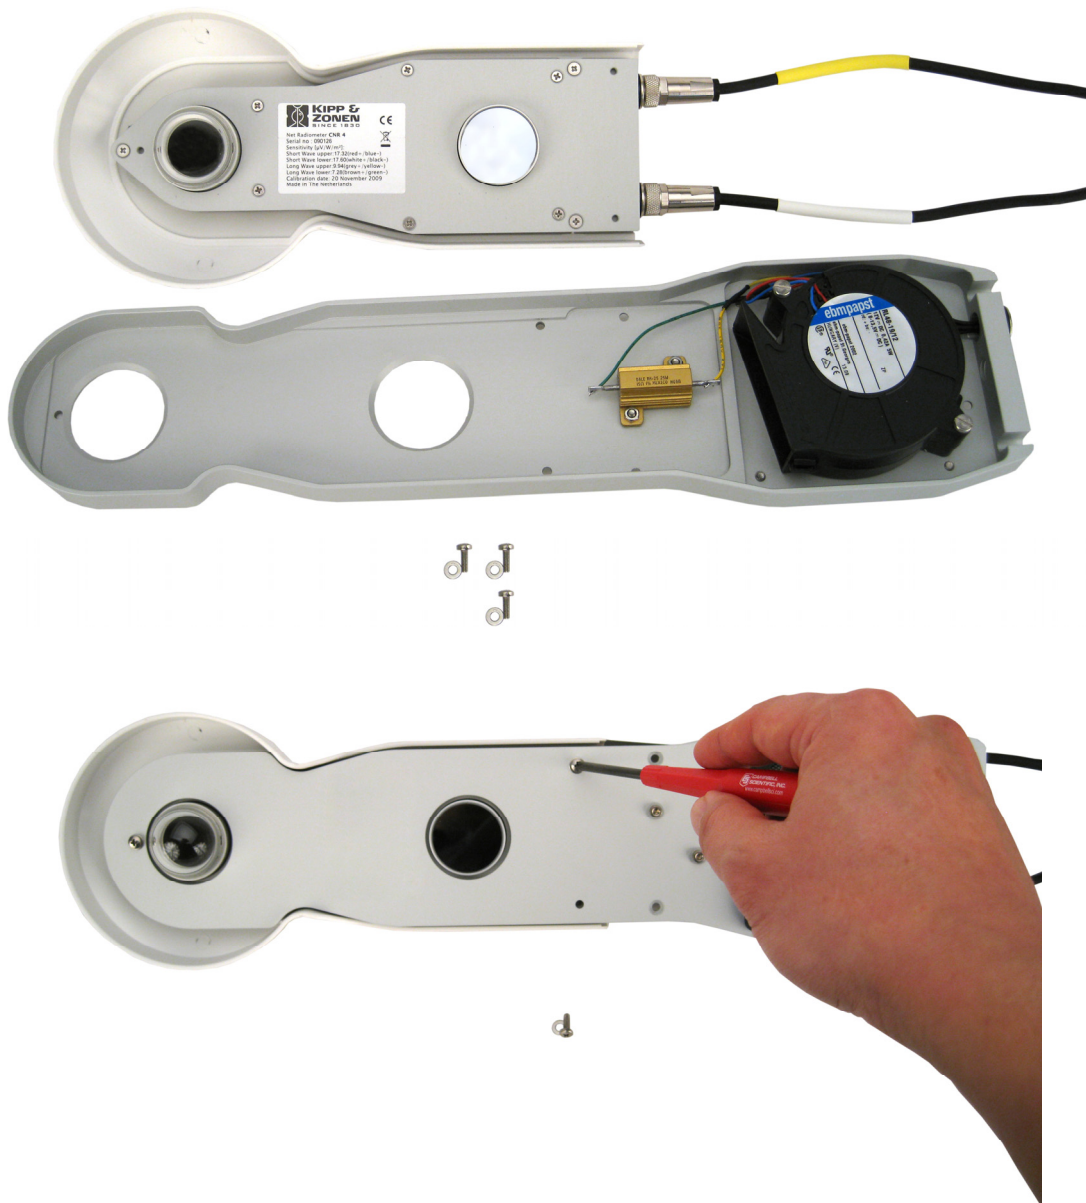

FIGURE B-2. Attaching the CNF4 to CNR4 using pan-head screws and washers
2. Attach the heater/ventilator unit unto the bottom of the CNR4 sensor, using the three pan-head screws and washers, as shown in FIGURE B-2. Make sure that the pyranometer and the pyrgeometer windows are not scratched during the installation.